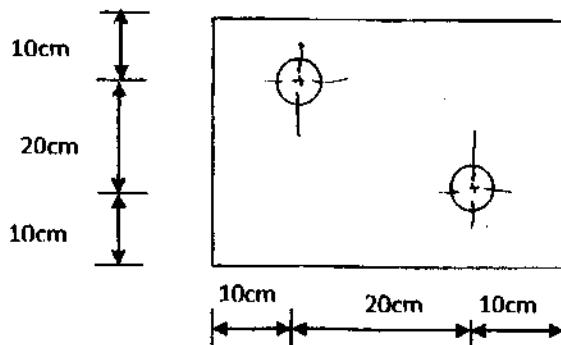

Fig.1
b) Fig.1 is a PTP job. Write the ATP geometry and motion statements necessary to perform the drilling portion of this job. Assume suitable dimensions. 10